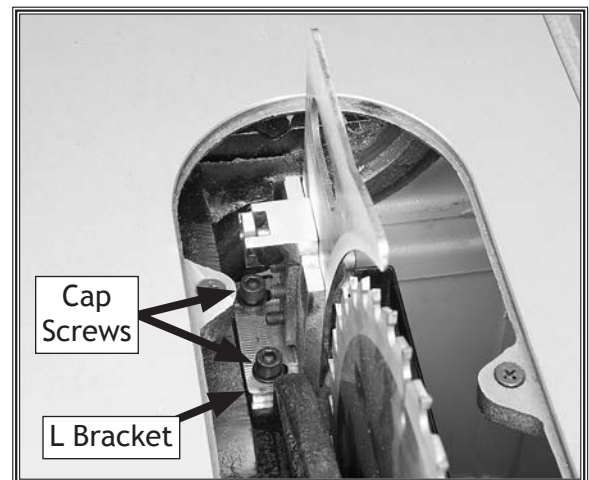

Figure 102. Location of the L-bracket.
3. Loosen the two cap screws on the "L" bracket (see **Figure 102**), then adjust the position of the "L" bracket as necessary to correctly align the spreader/ripping knife with the blade and into the "Alignment Zone".